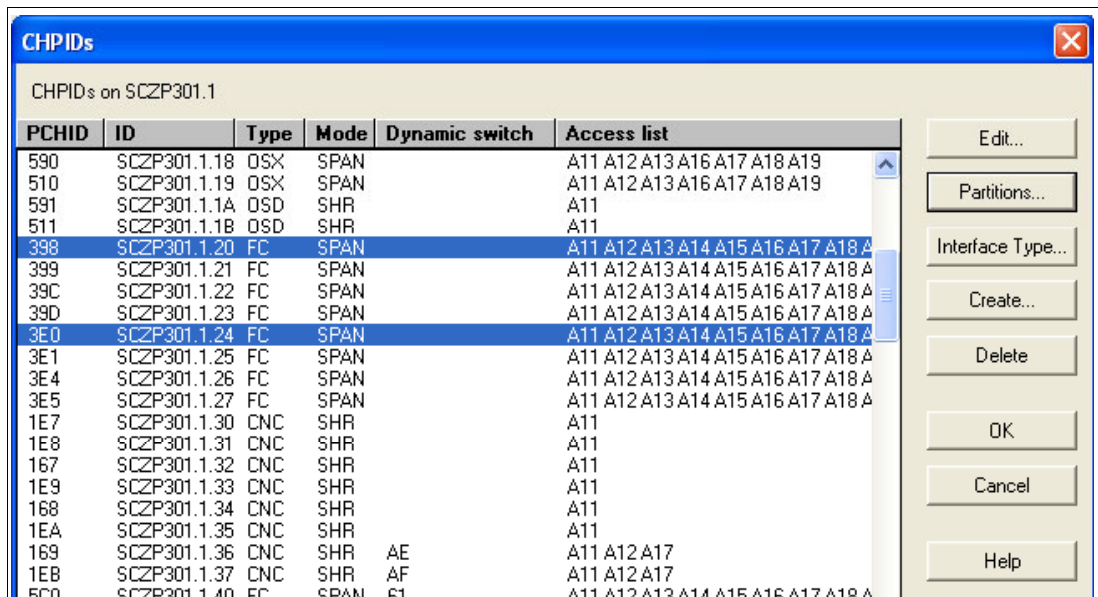

Figure 5-14 HCM Edit CHPIDs
6. Scroll down the list until CHPIDs 20 and CHPIDs 24 are located. See Figure 5-14.